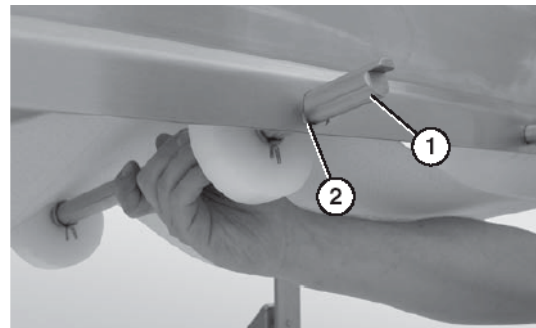

Figure 10
1. Slide the return shaft (Figure 10, item 1) up and through the large slot (Figure 10, item 2) in the frame.